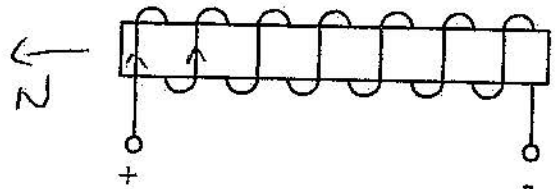

Figure 2
12. For the circuit of figure 2, determine which end of the electromagnet will be the north pole